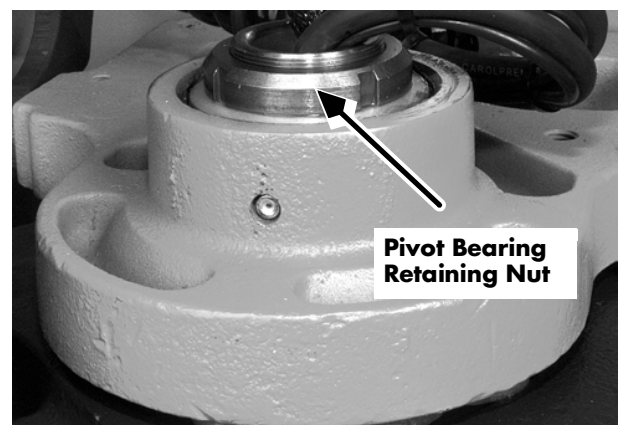

Figure 6-43: Pivot Bearing Retaining Nut
7. Remove the pivot bearing retaining nut. See Figure 6-43.